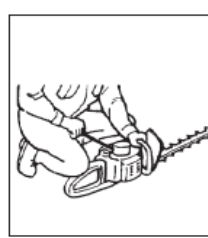

FIG. 4
4. Place the unit on a stable, clean surface. Pull the starter knob quickly. (Fig. 4)